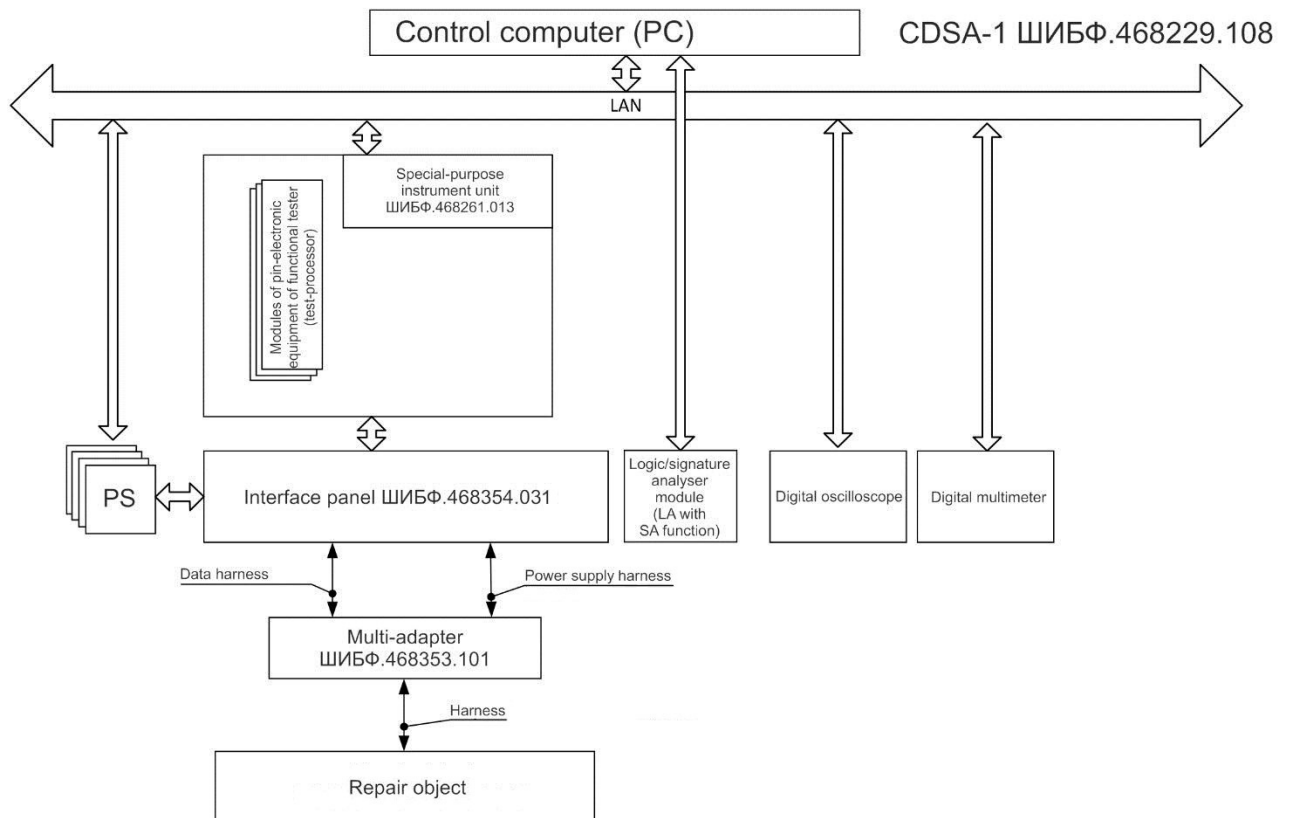

Figure 6.1 – Diagram of repair object H6.17.06.08 ЕФ3.035.074 connection to automated control and diagnostics system CDSA-1 ШИБФ.468229.108
6.1 The diagram of repair object connection to automated control and diagnostics system CDSA-1 is shown in Figure 6.1.